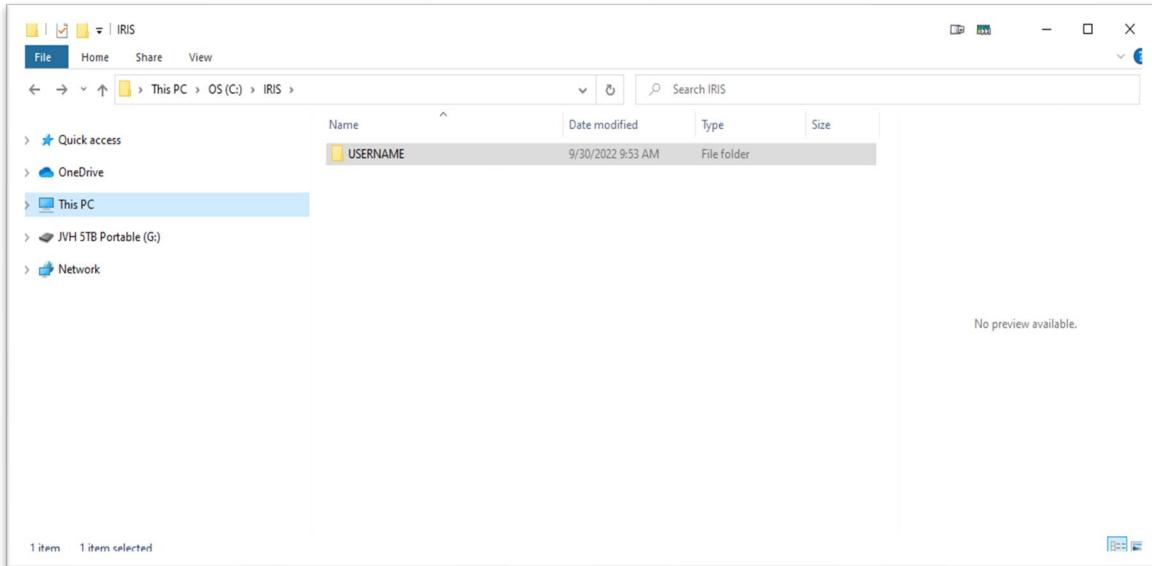

Figure 1. iRIS Installer Folder Creation
3. The installer will create a folder named, *C:\RIS\<USERNAME>*. *See Figure 1*